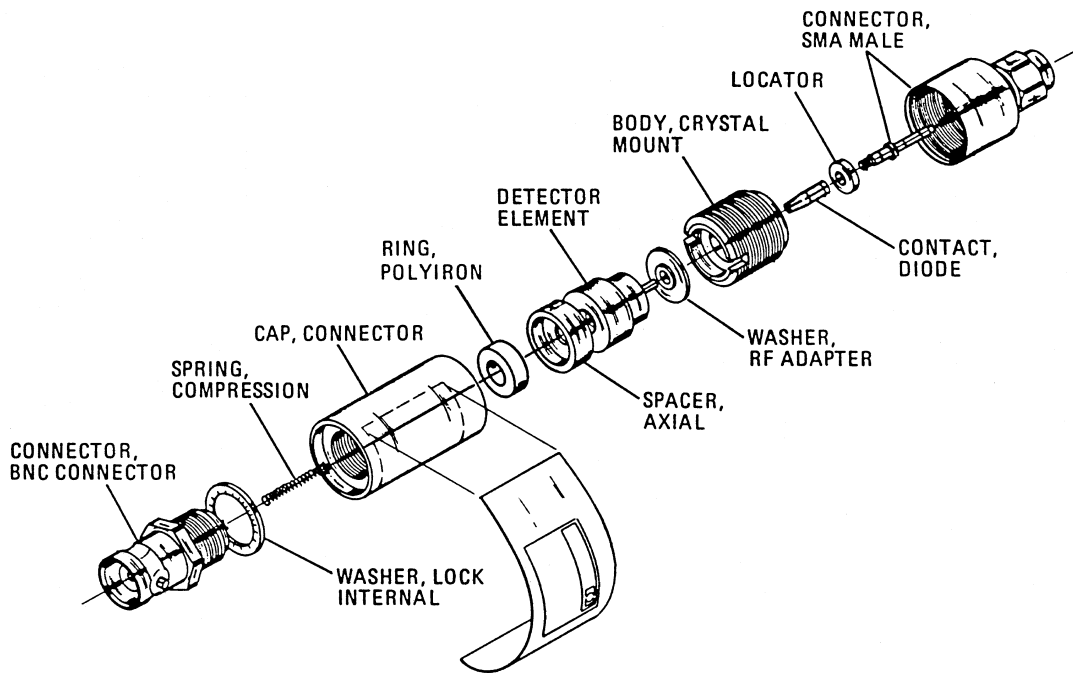

Figure 2 HP 8472B Crystal Detector Assembly
Parts mentioned in the following procedure are identified in Figures 2 and 3 on page 10.
4. Install the RF adapter washer, polyiron ring, axial spacer, and new detector element. Refer to Figures 2 and 3 for the proper orientation for the internal components.